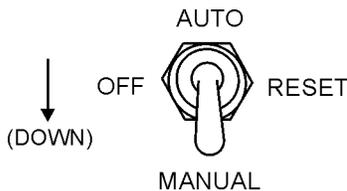

Figure 48. Off/Manual/Auto Switch (Manual)
6. Place the Off/Manual/Auto switch (Figure 48) in the **MANUAL** position (down). Observe that the engine begins to crank.